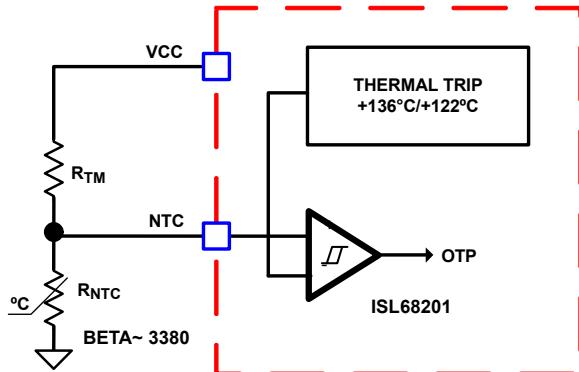
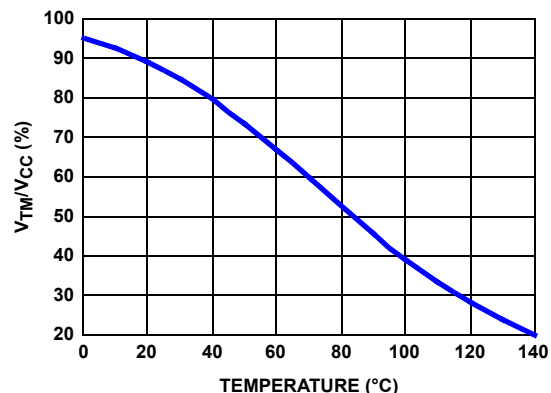

FIGURE 16. BLOCK DIAGRAM OF THERMAL MONITORING AND PROTECTION
FIGURE 18. THE RATIO OF TM VOLTAGE TO NTC TEMPERATURE WITH RECOMMENDED PART
The thermal monitoring function block diagram is shown in Figure 16 on page 18. One NTC resistor should be placed close to the respective power stage of the voltage regulator VR to sense the operational temperature, and pull-up resistors are needed to form the voltage dividers for the NTC pin. As the temperature of the power stage increases, the resistance of the NTC reduces, resulting in the reduced voltage at the NTC pin. Figure 18 on page 18 shows the TM voltage over the temperature for a typical design with a recommended 10kΩ NTC (P/N: NCP15XH103J03RC from Murata, $\beta = 3380$) and 1.54kΩ resistor R_{TM} . It is recommended to use those resistors for accurate temperature compensation because the internal thermal digital code is developed based on these two components. If a different value is used, the temperature coefficient must be close to 3380 and R_{TM} must be scaled accordingly. For instance, if $NTC = 20k\Omega$ ($\beta = 3380$), then R_{TM} should be $20k\Omega/10k\Omega * 1.54k\Omega = 3.08k\Omega$.
Based on the V_{CC} voltage, the ISL68201 converts the NTC pin voltage to a digital signal for temperature compensation. With the nonlinear A/D converter of the ISL68201, the NTC digital signal is linearly proportional to the NTC temperature. For accurate temperature compensation, the ratio of the NTC voltage to the NTC temperature of the practical design should be similar to that in Figure 18.
1. Properly choose the voltage divider for the NTC pin to match the NTC voltage vs temperature curve with the recommended curve in Figure 18 on page 18.
As shown in Figure 16 on page 18, there is a comparator with hysteresis to compare the NTC pin voltage to the threshold set. When the NTC pin voltage is lower than 22.31% of the V_{CC} voltage (typically +136 °C), it triggers Over-Temperature Protection (OTP) and shuts down the ISL68201. When the NTC pin voltage is above 27.79% of the V_{CC} voltage (typically +122.4 °C), the ISL68201 resumes normal operation. When an OTP fault is declared, the controller forces the LGATE and UGATE gate-driver outputs low.